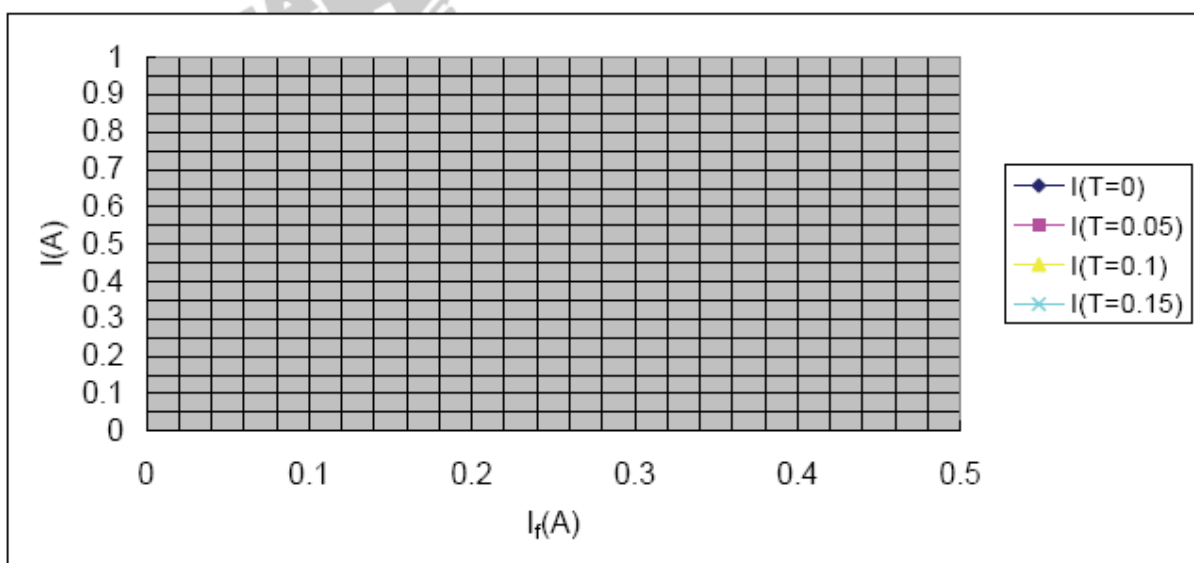

Fig. 14-3-3 I vs I_f curves
14. Plot I vs I_f curves at different torque settings in Fig. 14-3-3 using the results of Table 14-3-1